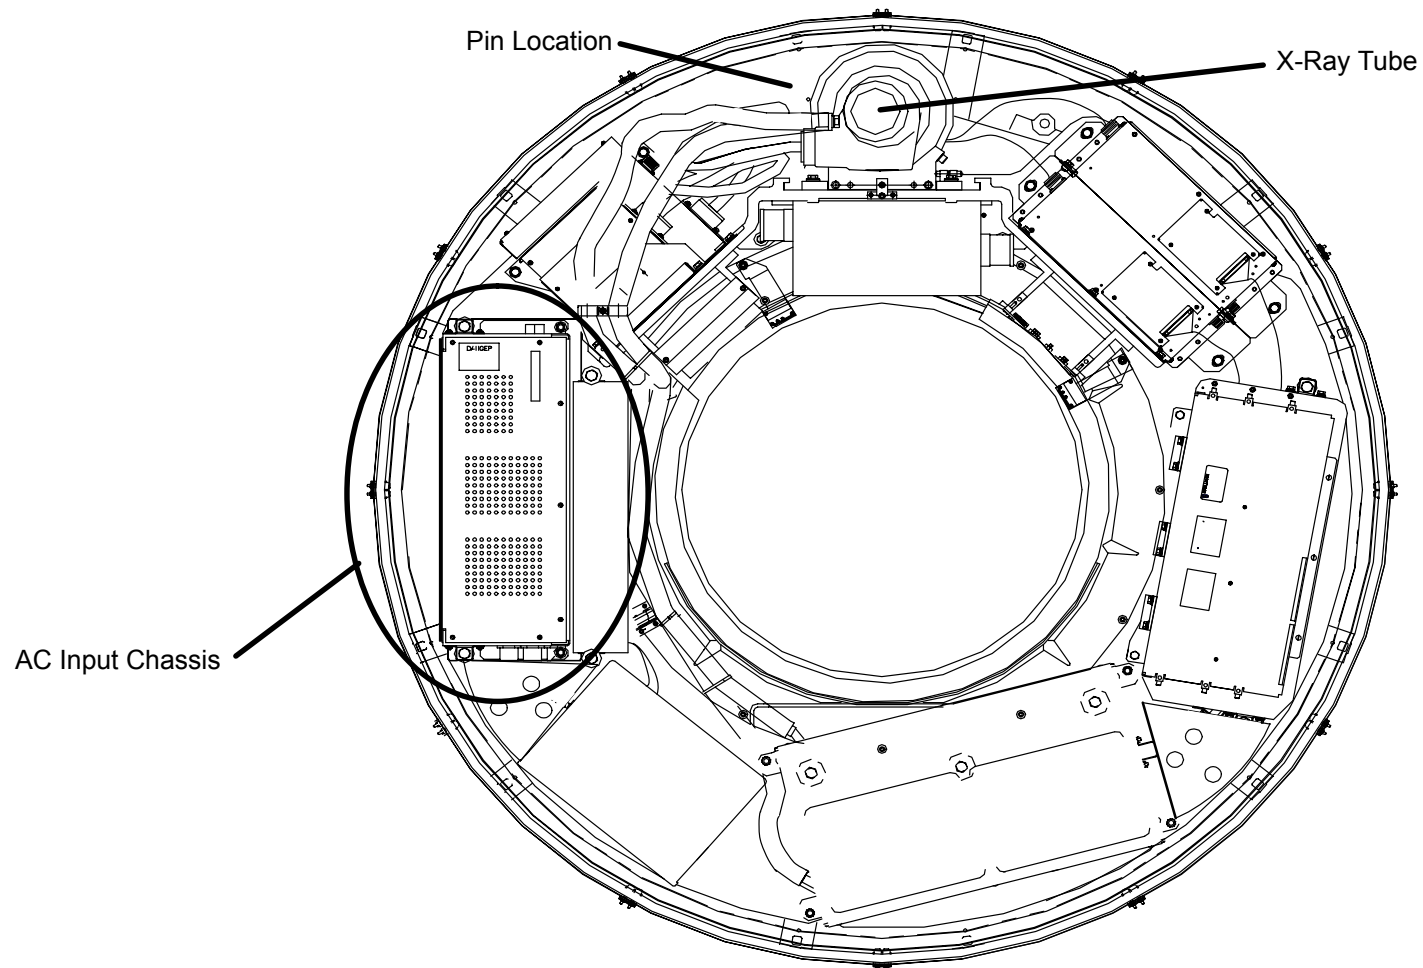

FIGURE 277 Scan Frame Pinned with Tube at 12:00
3. Rotate the Scan Frame counterclockwise by hand until the X–Ray Tube is at the 12:00 position. Lock the Scan Frame with the Locking Pin. See Figure 277.